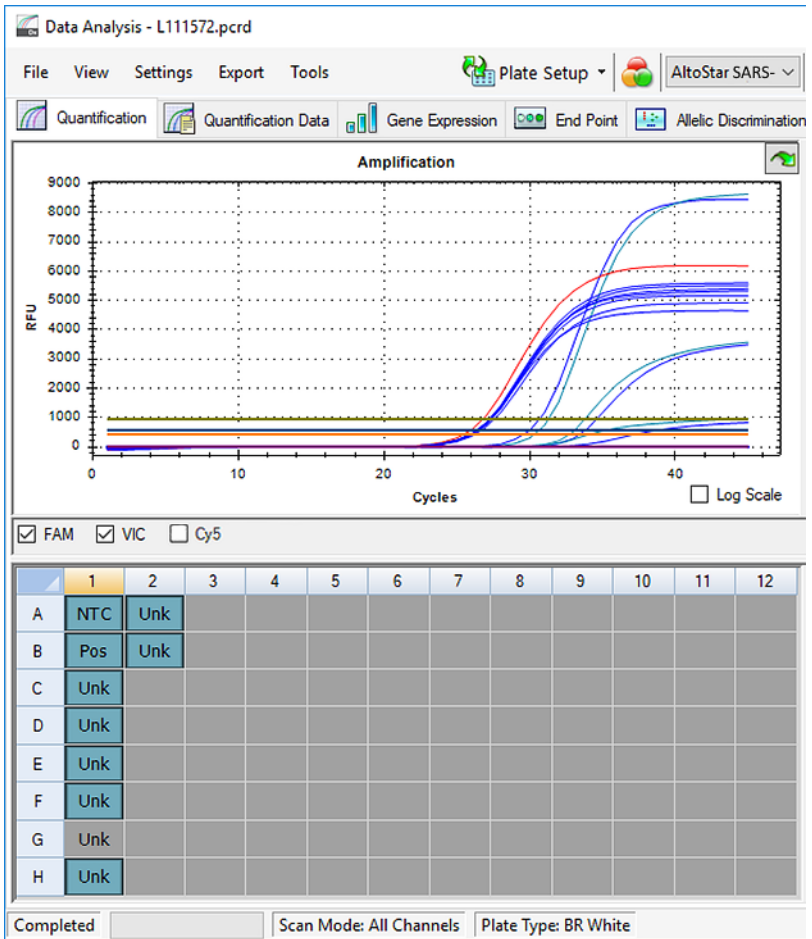

Figure 38: Data Analysis window: Excluded well
4. The selected well is excluded from the analysis. No results will be generated for this well (see Figure 38).